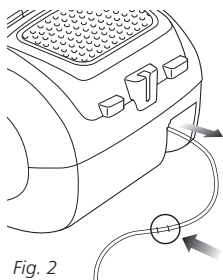

Fig. 2
- 1** To extend the power cord, pull it from the rear of the vacuum to the desired length. (**Fig. 2**) A yellow mark on the power cord shows the ideal cable length.